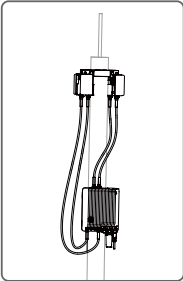

Figure 5. Connection configuration between G8 antennas and the stationary unit
- a. If using G8 directional antennas, connect each antenna to one antenna port of the stationary unit with an antenna cable. Note that two adjacent antennas should be connected to ports at the top of the stationary unit, while the other two adjacent antennas should be connected to ports at the bottom. This ensures diversity gains will be realized. Figure 5 shows the connection configuration between the G8 antennas and the stationary unit.